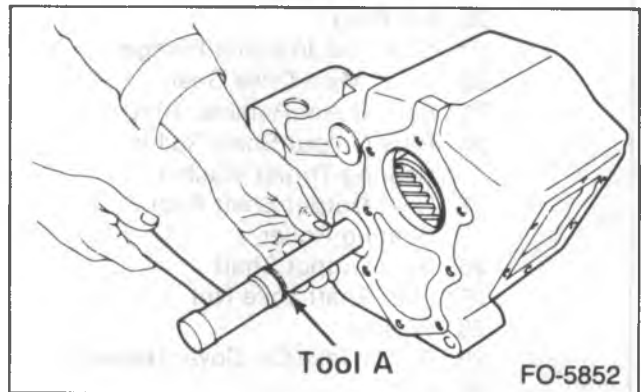

Figure 8—Removing the Idler Shaft
1. Idler gear shaft nut (27) and washer (28).
2. Idler shaft rear cover bolts (58) and rear cover (56).
3. Idler gear shaft (54), using Tool A and a soft hammer (figure 8).
4. Idler gear (51).
5. Bearing cups (50), as required, from the idler gear (51).
6. Spacer (52).
7. Shims (53).